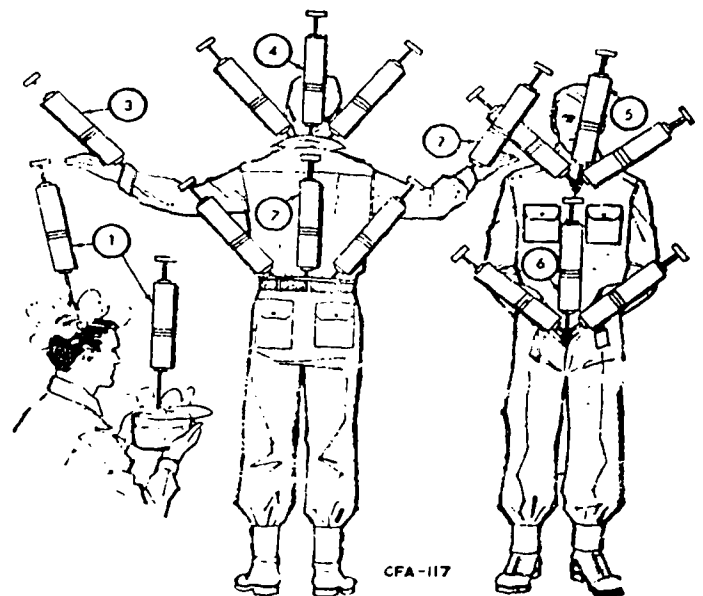

Figure 2-6. Delousing procedure.
- (1) Using the insecticide powder, dust the head and hairy portions of the body.
- (2) One week from the initial application, apply the powder again to kill lice which may have hatched in the meantime. Withhold bath and shampoo for one day after this dusting.
- (3) Examine the head and hairy parts of the body closely to be sure that no living lice are present. If the hair is cut short, lice can be seen more easily; short hair is also easier to powder effectively. Delousing procedures for an individual are shown in figure 2-6.